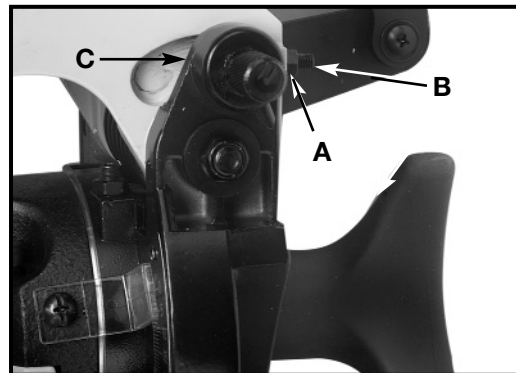

Fig. 29
2. The downward travel of the saw blade can be limited to prevent the saw blade from contacting any metal surfaces of the machine. This adjustment is made by loosening locknut (A) Fig. 29, and turning adjusting screw (B) in or out until other end of screw (B) contacts stop (C) at the full downward travel of the saw blade.
3. Lower the blade as far as possible. Rotate the blade by hand to make certain the teeth do not contact any metal surfaces and adjust if necessary. After adjustment is completed, tighten locknut (A) Fig. 29.